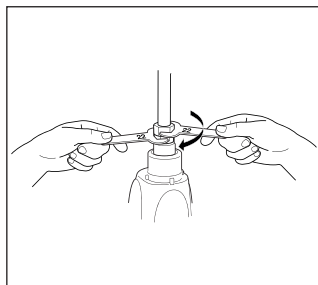

Fig. 3
- To remove the mixer bar, unscrew it from the mixer spindle in an anticlockwise direction. The mixer bar can become rather tight in the holder. In that case, use a spanner to keep the holder from turning. (Fig. 3)